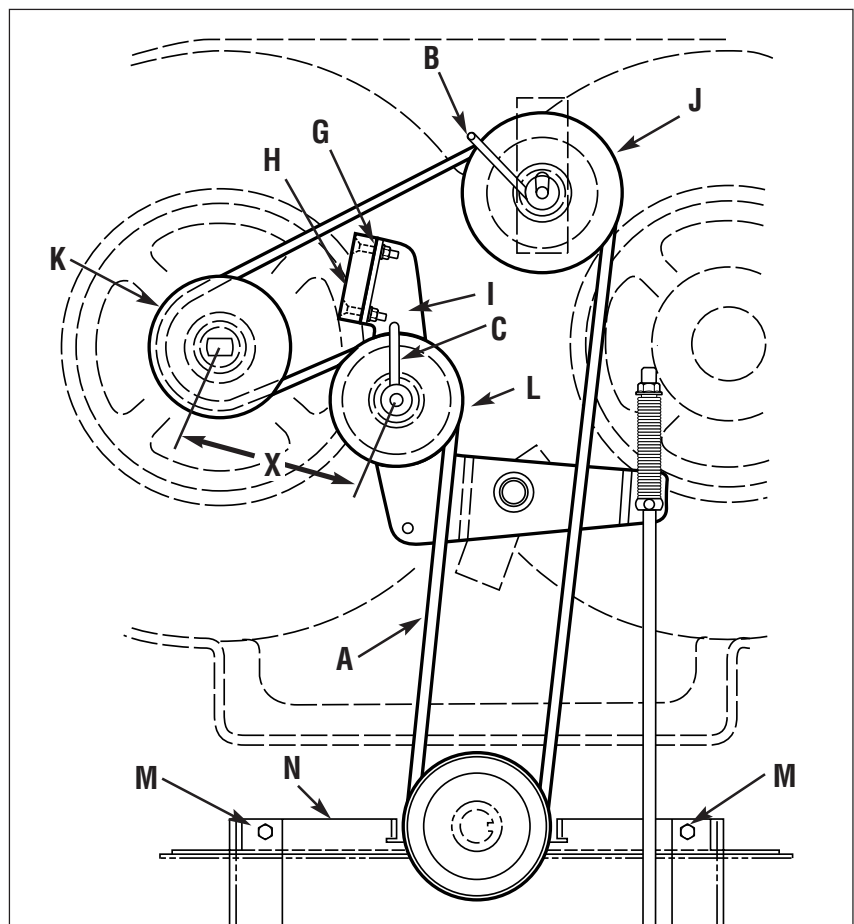

Figure 5-8: Blade drive.
4. Loosen belt guides (B and C, Figure 5-8).
5. Move flap bracket (N, Figure 5-8) out of the way by loosening two screws (M).
6. Remove belt (A, Figure 5-8) from around sheaves.
1. Route belt (A, Figure 5-8) around sheaves as shown.
3. With the Blade Drive Control lever engaged, adjust and tighten belt guide (B) to $1/32 - 1/16"$ away from tensioned belt. (Be sure that belt does not contact belt guide when belt is under tension.) Secure belt guide (C) rotated into position as shown in Figure 5-8.
5. Re-tighten two screws (M, Figure 5-8) that secure flap bracket (N).
3. Remove hardware (G, Figure 5-8) securing blade brake (H).
4. Remove old brake (H) from idler arm (I).
8. Engage the blade drive and measure the distance (X, Figure 5-8) between the centers of pulleys (K) and (L). The distance should be 5-1/2 to 5-5/8". After obtaining the correct dimension, reinstall the belt cover securely and test the operation of the blade brake.